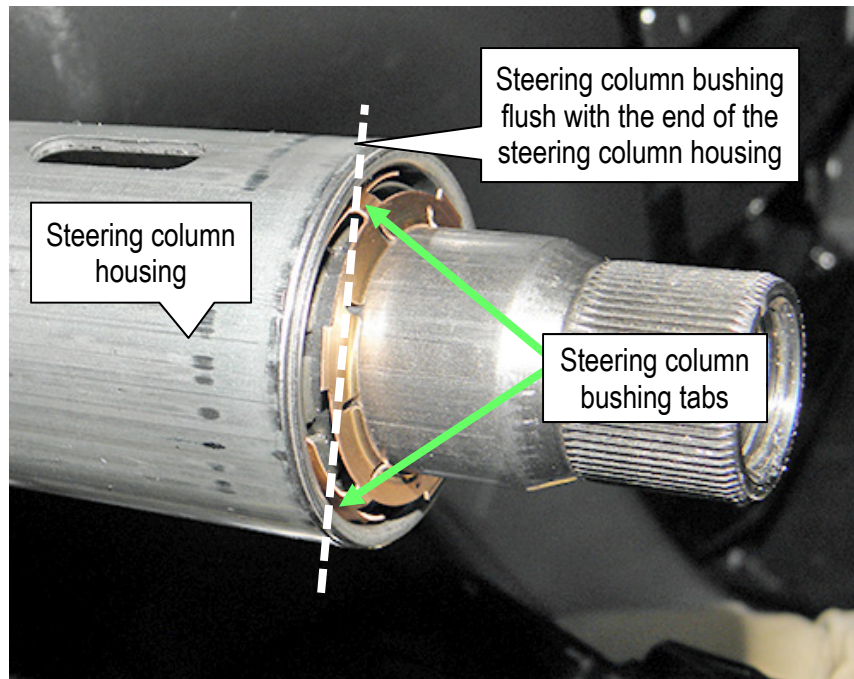

Figure 19
21. Tuck the three (3) steering column bushing tabs into the steering column housing, and then push the steering column bushing into the steering column housing until it is flush with the end, as shown in Figure 19.
**NOTE:** Only two of the three (3) steering column bushing tabs are shown in Figure 19. The third steering column bushing tab is hidden behind the steering column shaft.